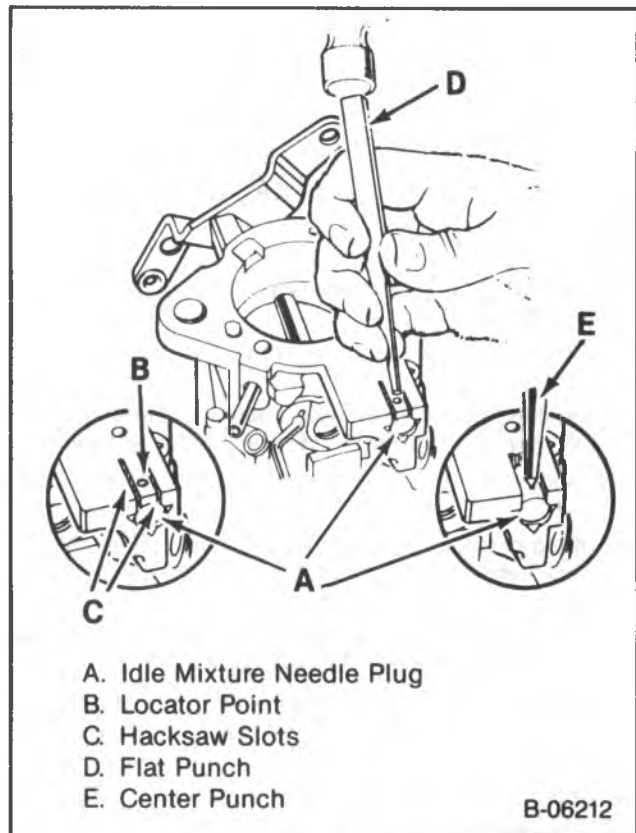

Figure 12 — Removing the Idle Mixture Needle Plug
IDLE MIXTURE ADJUSTMENT (Figure 12)
4. Remove the idle mixture needle plug (figure 12).